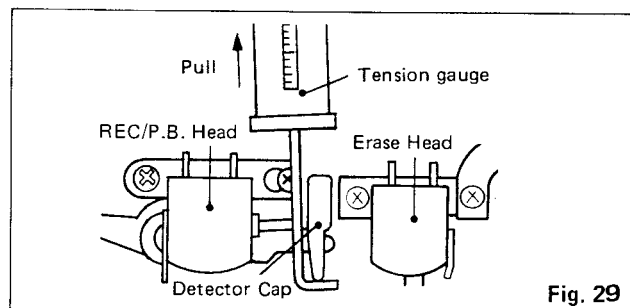
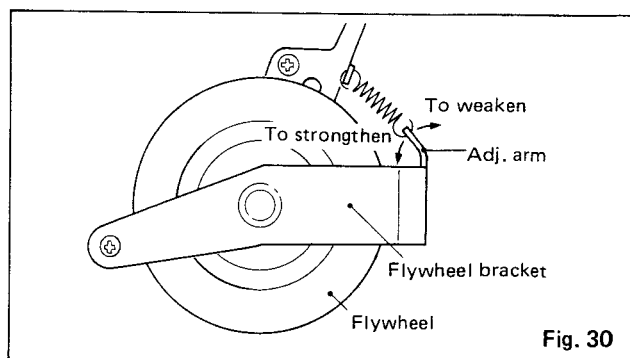

Fig. 29
Fig. 30
2. Adjust the regulating arm bend in Fig. 30 so that the autostop mechanism starts functioning between 45g and 65g when slowly pulling the cap with the tension gauge, as illustrated in Fig. 29.